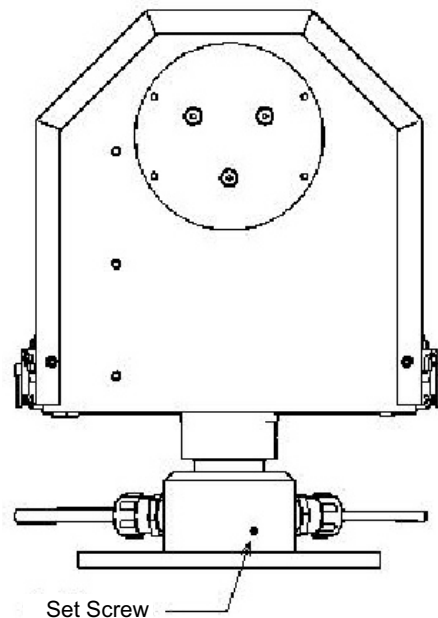

Figure 4.42: Cold Start Switch inside the 2AP Azimuth Shaft.
- Remove the set screw in the Azimuth shaft of the 2AP with the hex key (2.5 mm), see figure 4.42.